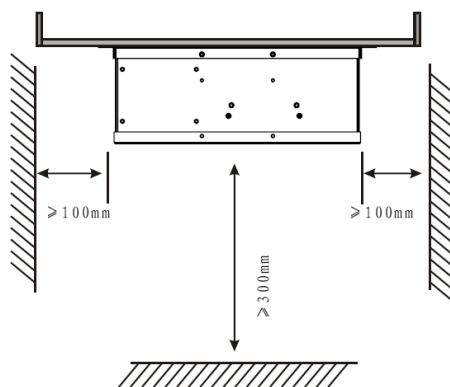

figure 1
- 3.1.1. Check the surrounding obstacles to make sure the product get enough space for air circulation, please refer to figure 1.
本产品安装前，请注意留给外循环足够空间以便外循环空气流通，如图（figure1）